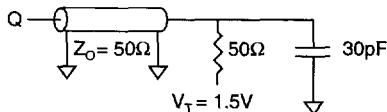

Fig. 1 OUTPUT LOAD EQUIVALENT
Output load	See Figures 1 and 2
6. Test conditions as specified with the output loading as shown in Fig. 1 unless otherwise noted.